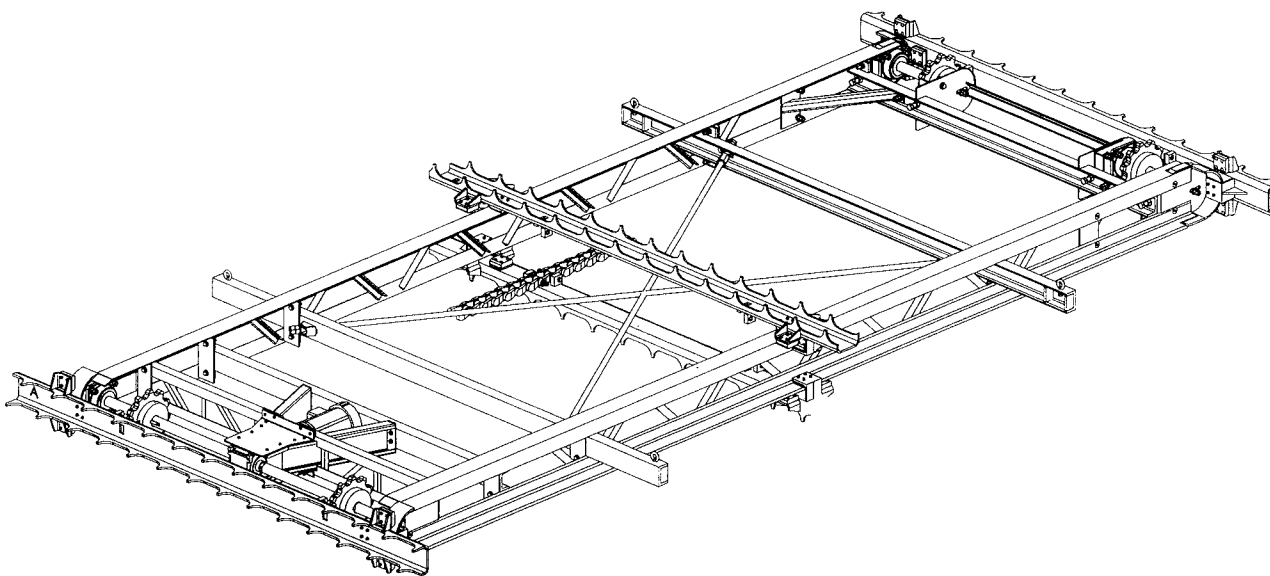

Figure 3-29 Typical CB Rake Assembly (12'-6" x 20' Rake Shown)
- 1 Insert the rope thimble in the eye bolt located on the end of the lifting beams as shown in Figure 3-29.
- 3 Turn back the specified amount of rope from the thimble and apply the first cable clamp one (1) base width from the dead end of the wire rope (U-bolt over dead end – live end rests in cable clamp saddle). Note the clamp alignment shown in Figure 3-29.